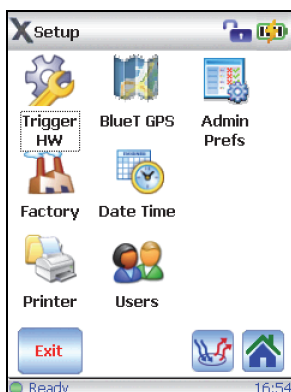

Figure E-8 The Trigger HW button in the Setup page
1. On the **Setup** page, tap **Trigger HW** (see Figure E-8 on page 158).